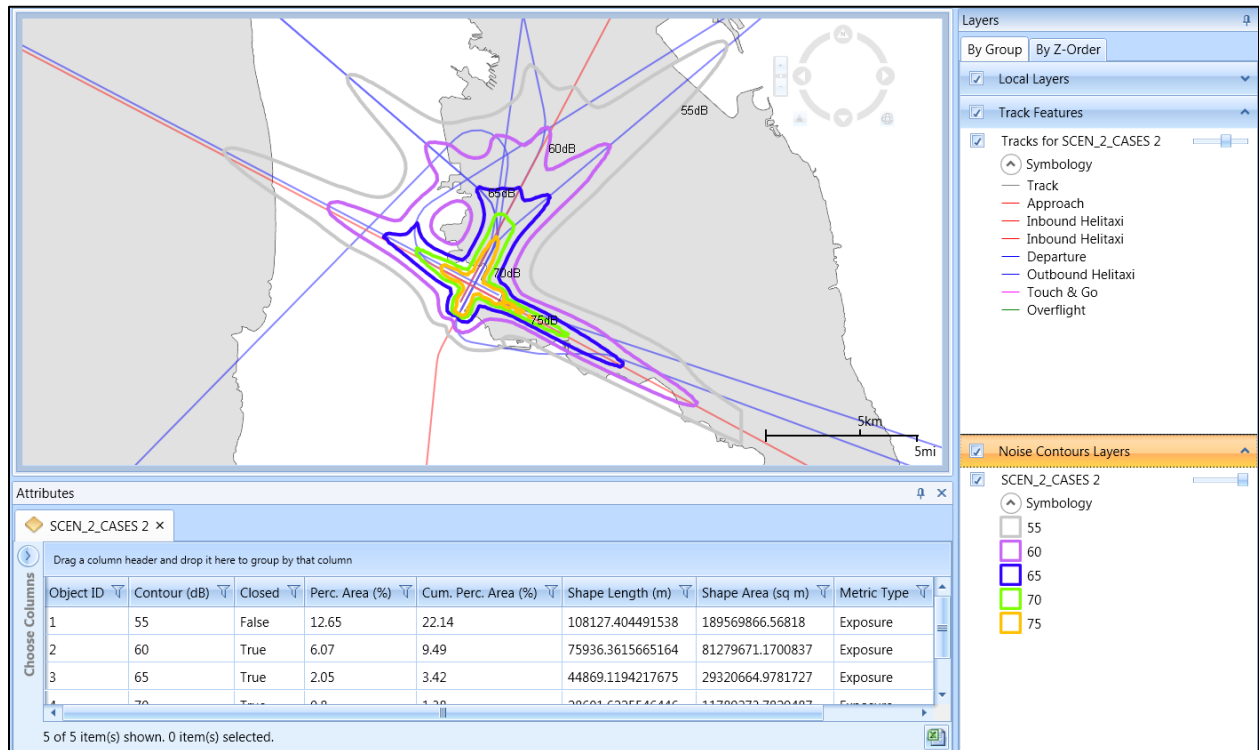

Figure 5-43 Sample Contour Layer with Attributes – Shown with Tracks
6. The contour layer is displayed on the map (Figure 5-43) and in the *Layers* manager.
The following attributes are available for contour layers: object ID, contour, closed, area percent, cumulative percent, shape length, shape area, metric type, and metric name (Figure 5-43). See Appendix B.3 for descriptions of the attributes. Perc. Area (%) and Cum. Perc. Area (%) columns are calculated based on the receptor set area or boundary (if used).